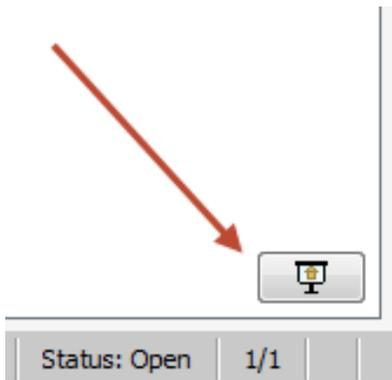

Figure 70 Presentation view detail
- To show the presentation in "Full Screen Mode" you click Toggle Presentation mode  in the bottom right hand corner or the 3D Window (see Figure 70).